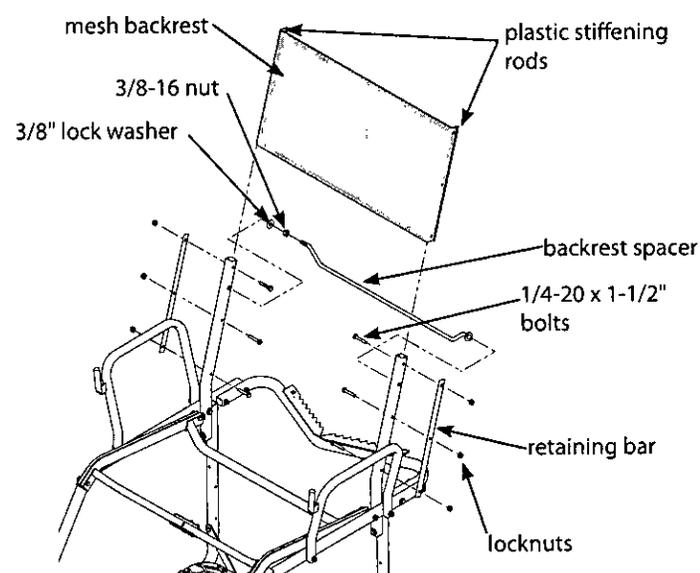

Figure 10
13. Attach the mesh backrest assembly (360021) and the (2) retaining bars (410081) to the backrest mounts using (6) provided 1/4-20 x 1-1/2" bolts and locknuts. **SEE FIGURE 10.** The mesh backrest must wrap around the front side of backrest mounts and the plastic stiffening rod located in the sewn sleeve on each side of the backrest **MUST** be positioned behind the backrest retainer bars to act as a stop and prevent the backrest from pulling out during use. All bolts **MUST** go through the backrest retainer bars, the holes provided in the backrest and the backrest mounts. **SEE FIGURE 10.** Temporary removal of the backrest mount tube from the rest of the assembled ladder top may be necessary to attach the mesh backrest. If this is needed, re-attach backrest mount tubes with mesh backrest to the ladder top assembly.
Thread the non-locking 3/8-16 nut onto the threaded end of spacer rod all the way to the bottom of threads and slide 3/8" lock washer on. Insert the threaded end of spacer rod through either backrest mount tube far enough to be able to insert the opposite end of spacer rod (end with welded-on washer) into opposite backrest mount tube. Thread 3/8-16 nut back against mount tube. Using a 9/16" wrench, tighten nut until mesh backrest becomes taut. **SEE FIGURE 10. You must now tighten all nut and bolt assemblies. Be sure not to over tighten or crush tubing when tightening!**